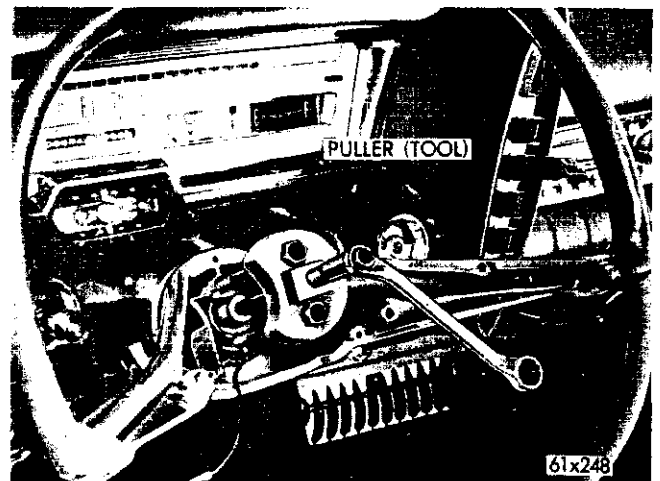

Fig. 127—Removing the Steering Wheel
(6) Loosen the steering wheel nut several turns and install the Steering Wheel Puller Tool C-3428 (Fig. 127) and remove the steering wheel nut and steering wheel.